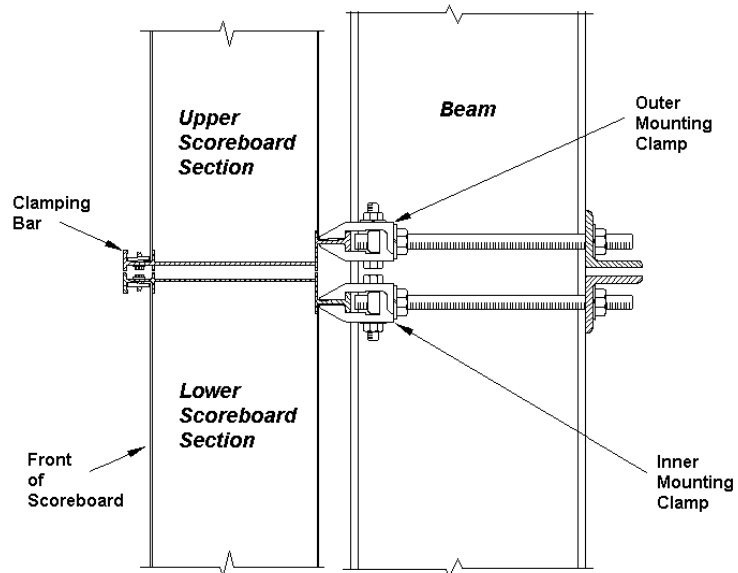

Figure 4: Multi-Section Scoreboard Mounting (Side View)
2. Insert a $\frac{1}{2}$ " square nut into each mounting clamp. From the rear, screw a threaded rod into each of the nuts, as shown in **Figure 4**.